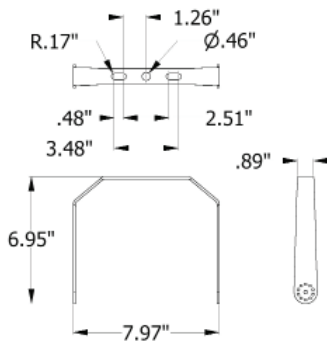

FIG. 10
- 2 FHZR 060 Trunnion Mount dimensions (Fig. 10).